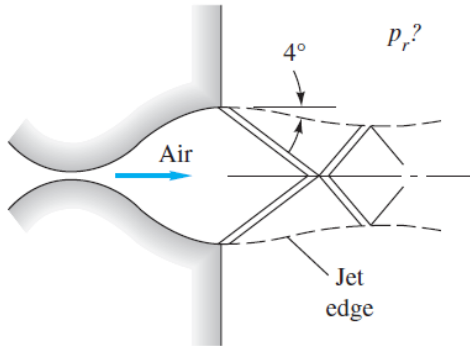

Fig. 9.17
9.17 The supersonic nozzle of Fig. 9.17 is overexpanded (case G of Fig. 9.12b-see book) with